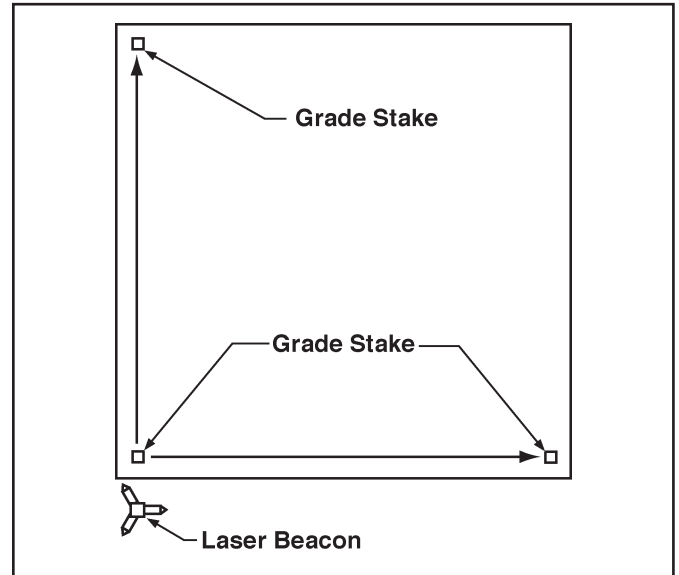

Figure 9. Method Two: Align Rotating Laser with Grade Stakes
2. Place the Rotating Laser a few feet (meters) behind the first grade stake and in line with one of the far grade stakes (it is not critical to align the Rotating Laser exactly). (Refer to Figure 9.)